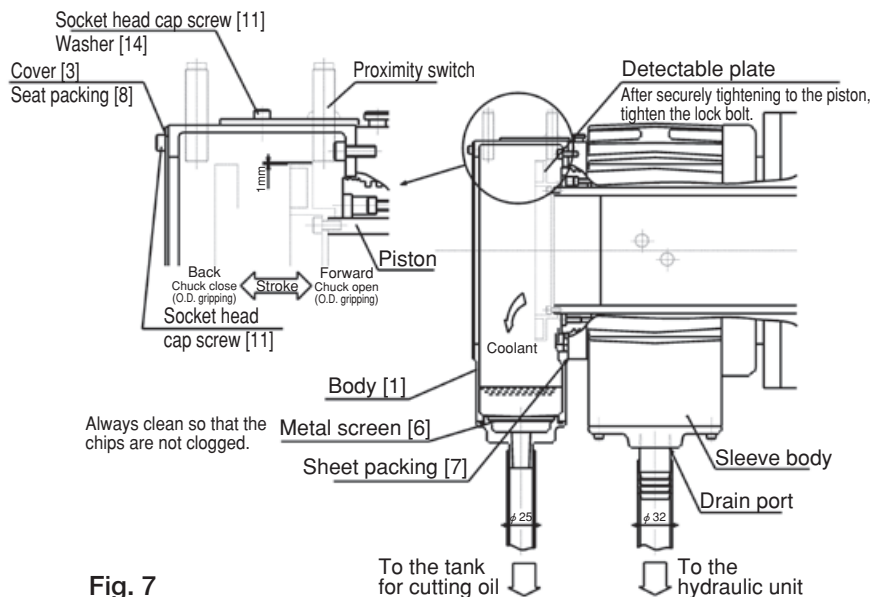

Fig. 7
- To easily collect the coolant flowing into the coolant collector, provide appropriate slope to the piping, so that the coolant does not stagnate inside the hose. To check the flow, use a transparent vinyl hose. (Inside diameter  $\phi$  25) (Fig. 7)
Read following instruction when you adjust the proximity switch. (Fig.7)
- If the coolant overflows from the coolant collector, the coolant is flows to the sleeve body side. Always clean the punching metal so that the coolant does not stagnate inside the coolant collector. Be sure the chips are not clogged. (Fig. 7)